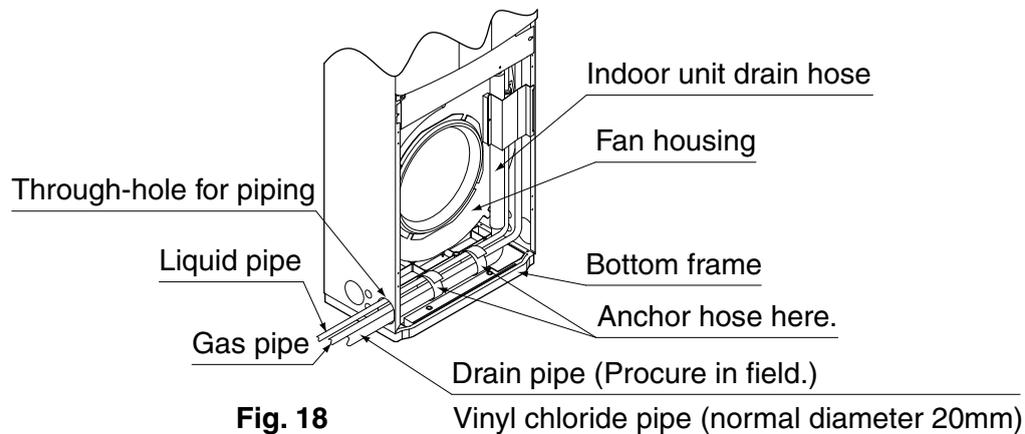

Fig. 18
- To avoid force on the drain hose of the indoor unit, make sure to fix the drain pipe such as to bundle it to the refrigerant pipe as shown in Fig. 18. This is to prevent the drain pipe from coming off and/or avoid bad insulation. The drain pipe must be sloped downward with a gradient of 1/100 from the drain pipe connection in the unit.
- (1) All piping in the room and inside the unit.
- (2) At the connection between the indoor unit drain hose and the field drain piping.